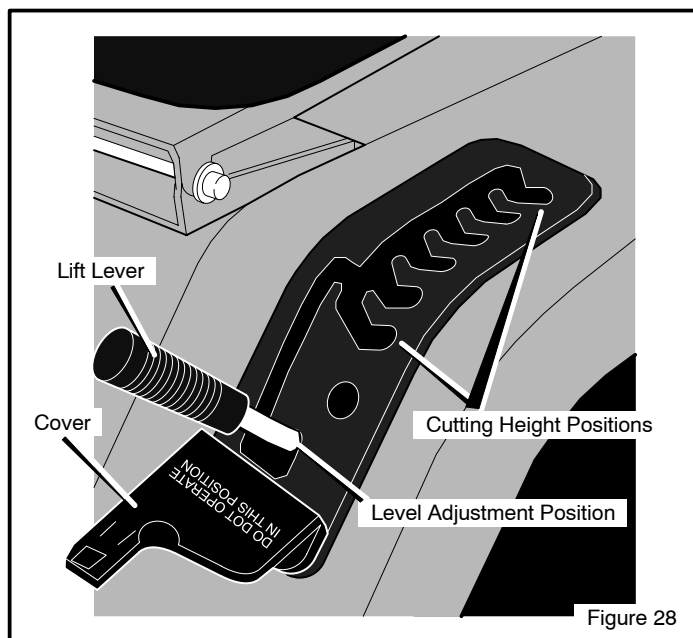

Figure 28
5. Move the **lift lever** to the LEVEL ADJUSTMENT position (Figure 28).